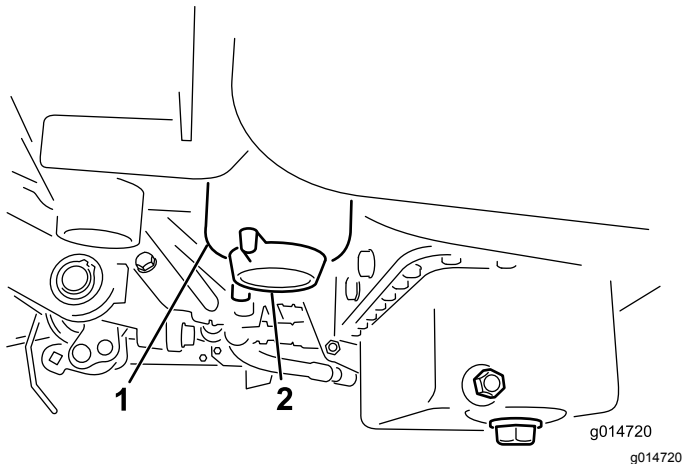

Figure 28
3. Open the drain plug on the fuel filter approximately one turn and drain any accumulated water (Figure 28).